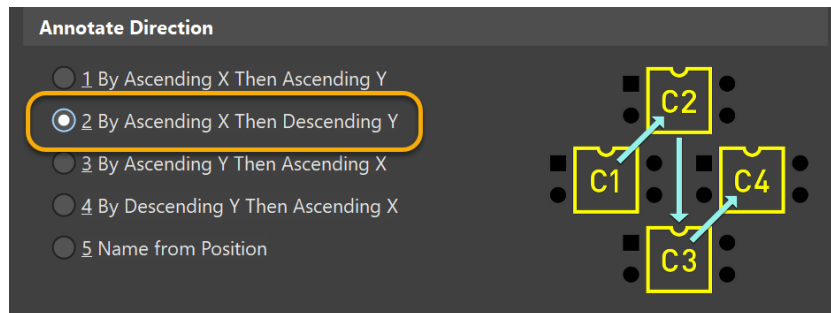

Figure 8. PCB Annotation with option 2
26. Select option **2** in the *Positional Re-Annotate* dialog, *Annotate Direction* by **Ascending X Then Descending Y**, Figure 8.